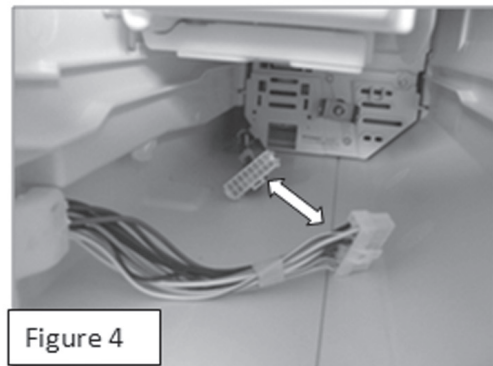

Figure 4
5. Disconnect wiring harness. Figure 4.